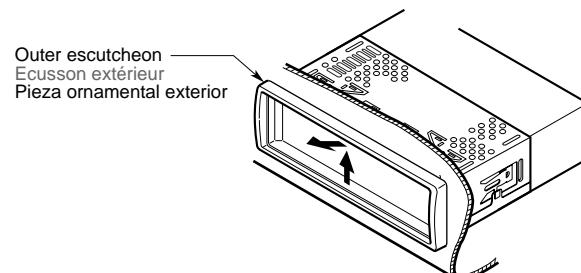

Figure 6 / Figure 6 / Figura 6
- Secure the mounting brackets to the chassis as shown in Figure 6. Holes are pre-tapped for TOYOTA and NISSAN vehicles; modification, such as drilling new holes, of the mounting brackets may be required for other models.
- Press the outer escutcheon upward and remove it. (Figure 6)
- Presser l'écusson extérieur vers le haut et le retirer. (Figure 6)